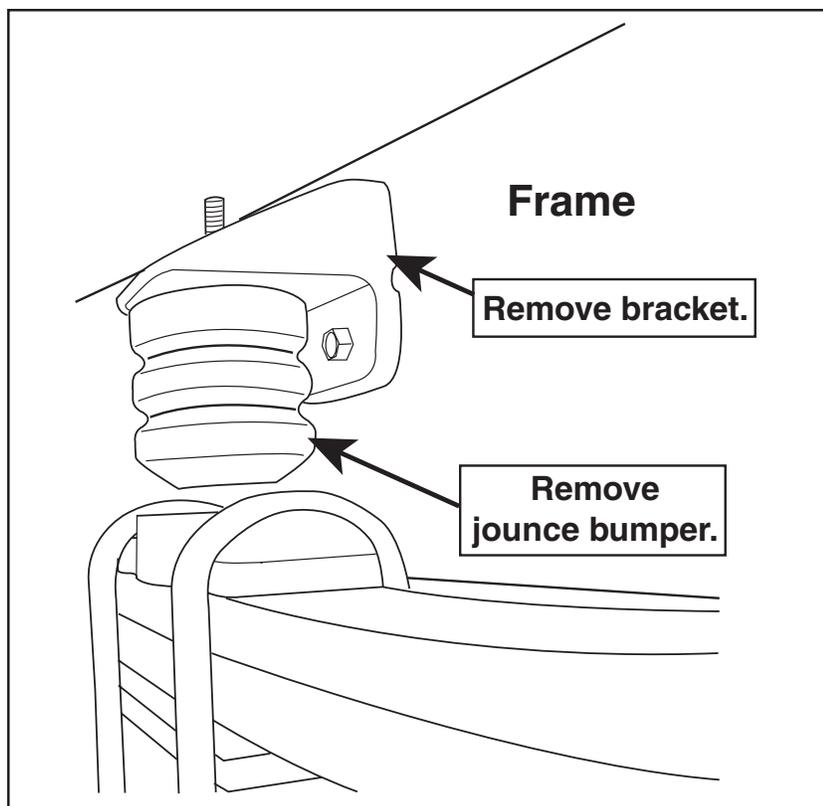

Figure 1
(\*not shown in Figure 1)
2. Remove the jounce bumper and bracket from the side of the frame above the leaf spring (Figure 1).